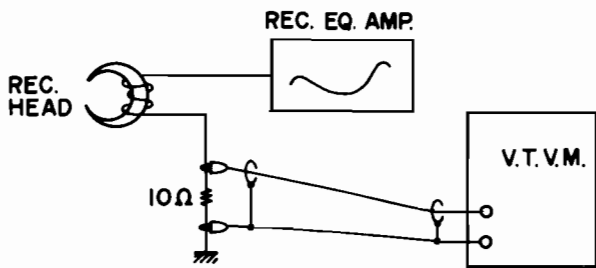

Fig. 36
- As shown in Fig. 36, connect a High Sensitivity V.T.V.M. to both terminals of the 10Ω fixed resistor.